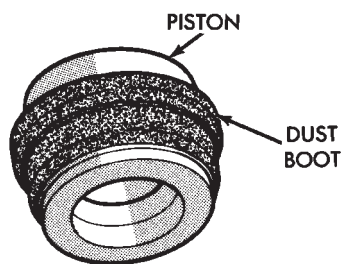

Fig. 52 Dust Boot On Piston
- (5) Install new dust boot on caliper piston and seat boot in piston groove (Fig. 52).